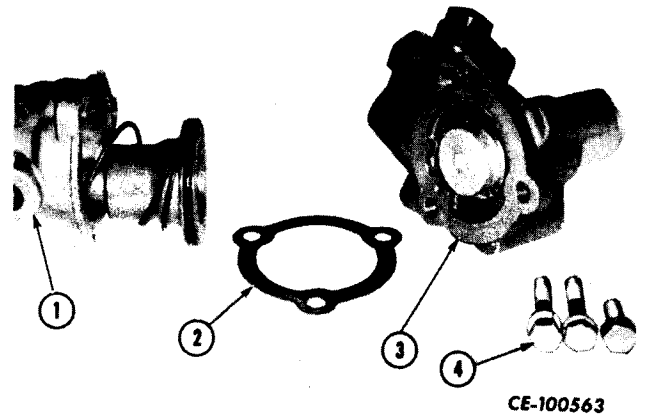
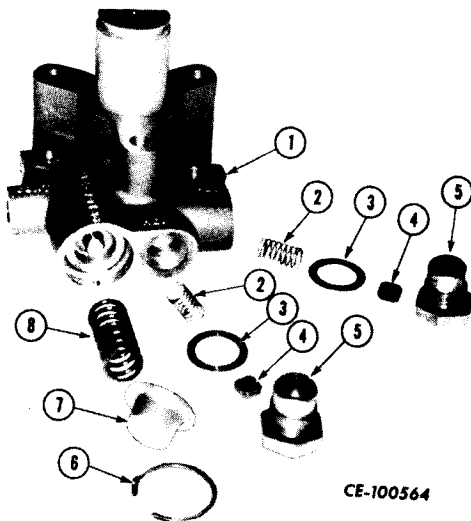

Figure 13-48A
Figure 13-48
Insert screens (4, Fig. 13-48) into plugs (5). Seat them with a blunt stick or pencil eraser. Slip copper washers (3) over plugs. Seat springs (2) in plugs and install in proper bores in section (1). Tighten plugs securely. Slide spring (8) onto spring seat of valve. Place spring seat (7) over spring and compress spring and seat. Install snap ring (6) while holding compressed spring and seat. Install spring (2, Fig. 13-46) and primary piston assembly (3) into valve body (1, Fig. 13-48A). Position new gasket (2) on